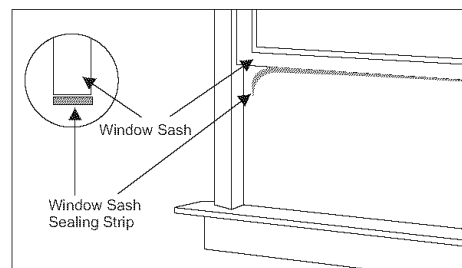

Fig. 9
D. Cut **the seal strip** to fit the underside of the bottom **window sash**. Remove the peel-off backing on the seal and attach it to this sash. See (Fig. 9).